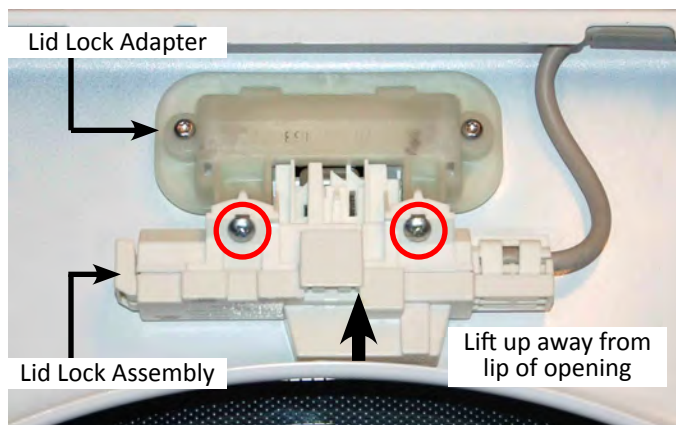

Figure 2
9. Remove the two Phillips screws (circled) securing the lid lock assembly to the lid (see Figure 2). Lift the lid lock assembly up and away from the lock adapter (see Figure 2).